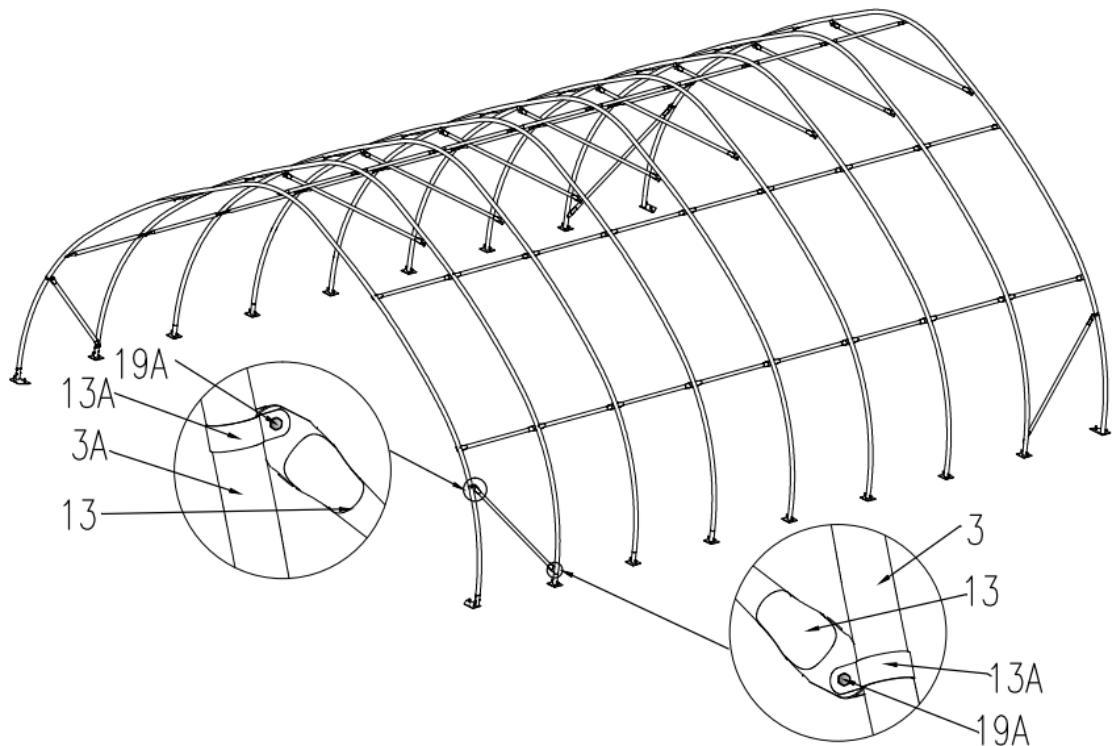

Figure 7
- Connect diagonal bracing bar (#13) on the first and last span to lower rafter tube (#3A and #3) with tube clamp (#13A), use bolt (#19)(figure 7).